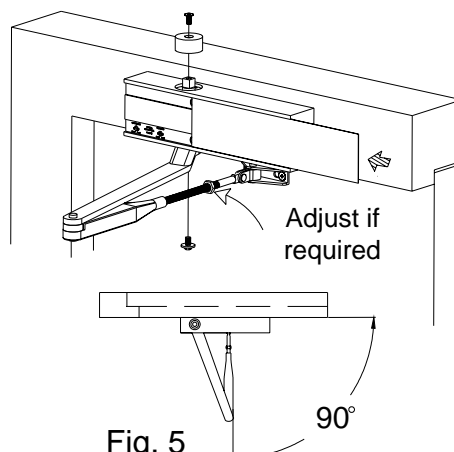

Fig. 5
6. Fit spindle cover cap to upperside of closer. **(See Fig. 5)**